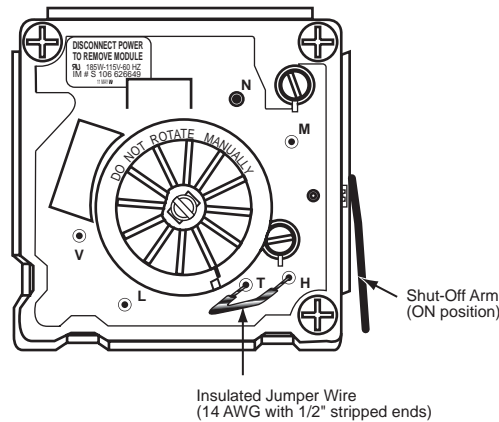

Figure 52. Test points T and H.
6. Short terminals T and H. An insulated jumper wire 14 AWG with 1/2 inch stripped ends is recommended. See Figure 52. The following events should take place during the cycle: